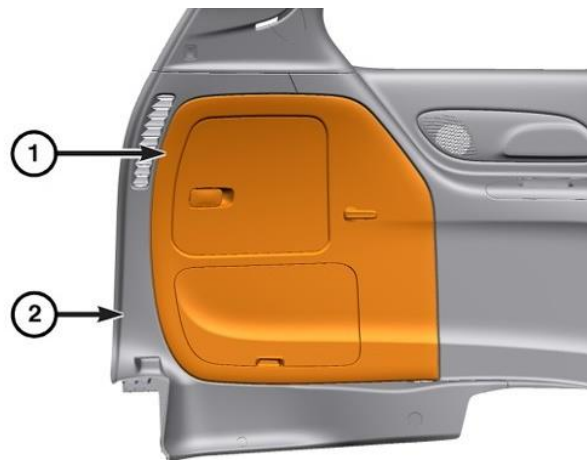

Figure 42 – Quarter Panel Insert
51. Using a trim stick or equivalent, release the quarter panel trim insert (1) from the quarter panel trim panel (2) (Figure 42).
64. Install the quarter panel trim insert (1) into the quarter panel trim (2) making sure the retainer clips are fully seated (Figure 42).